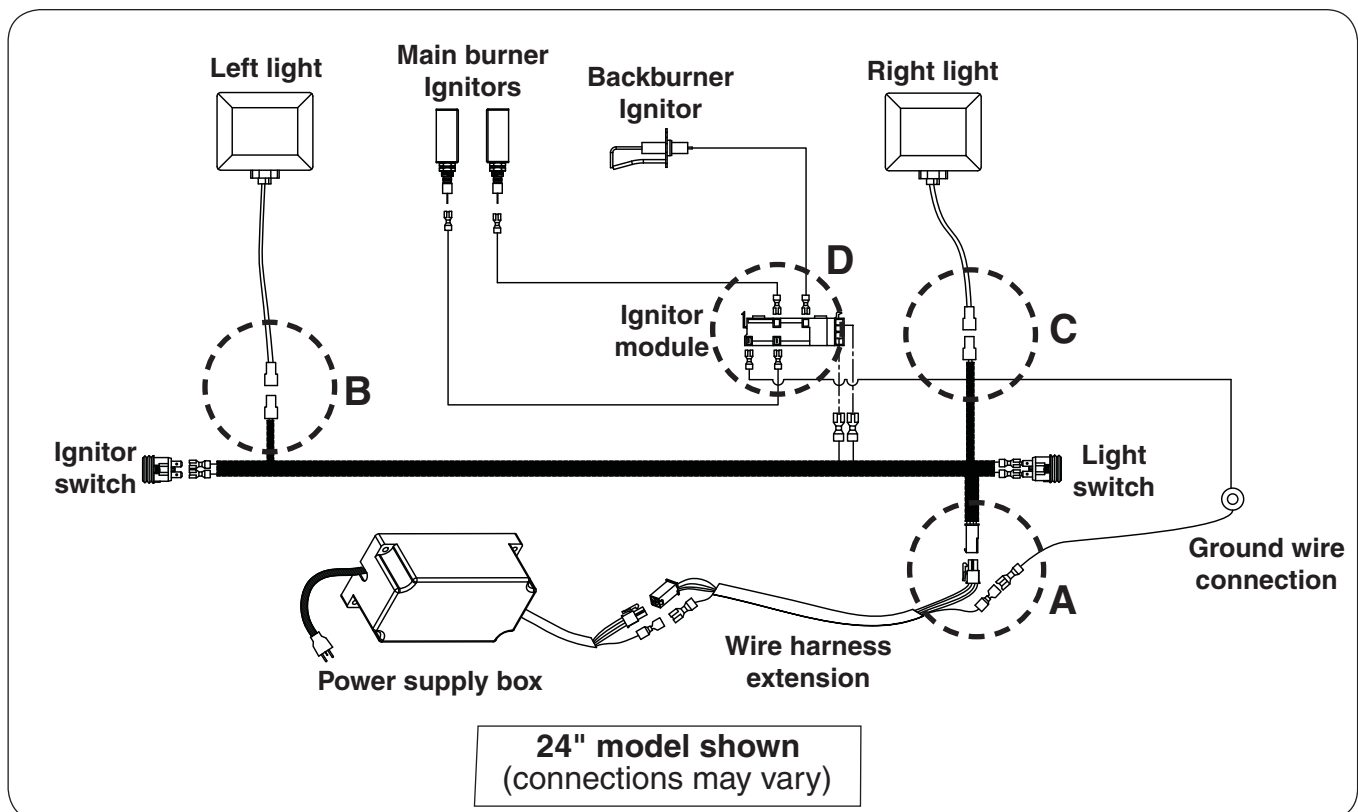

Fig. 32-1 - Wire diagram
2. Disconnect the main wire harness connections (**A**), the left light connection (**B**), the right light connection (**C**), and the ignitor wires (**D**). It is recommended to temporarily label the wires for reference when reconnecting. See Fig. 32-1. When disconnecting, be sure to pull from the connectors, and not the wires.